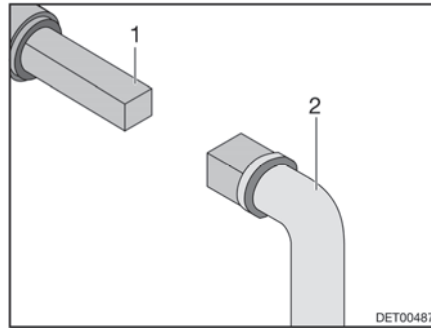

Fig. 78 Operation of the waste water tap
- Place key (Fig. 78,2) onto the square bolt (Fig. 78,1).